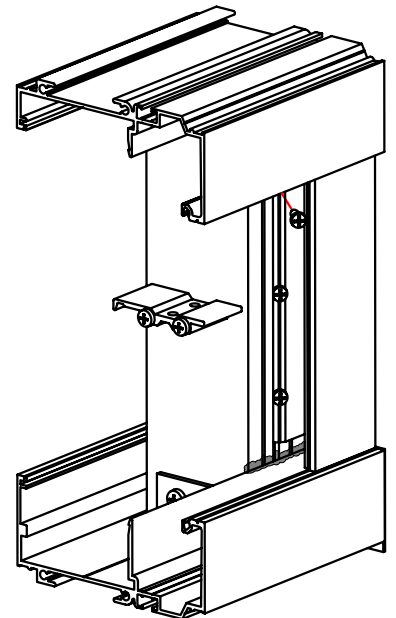

FIGURE 4
- STEP E:** Install Jamb adaptor inserting leg into center reglet of jamb and rotating until it bottoms out on the jamb member. Fasten with 028259 (#8 x 5/8" PHTF "AB") screws. (Figure 4)